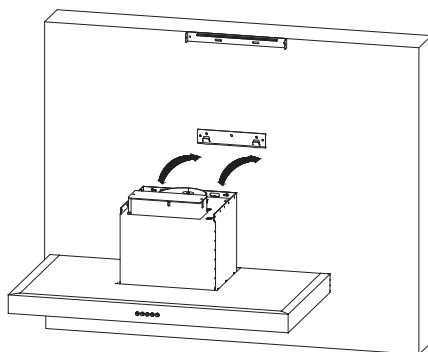

Fig.5
- Hang range hood on the installation plate. See Fig.5.